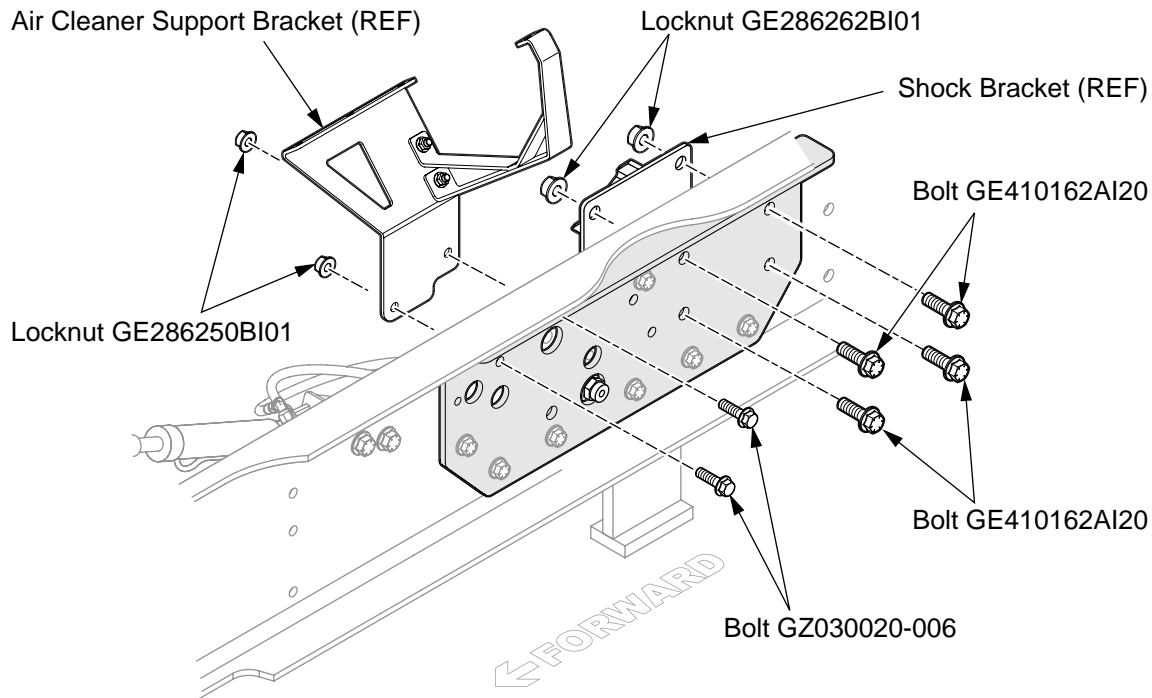

Figure 9
21. Using a 1/2" drive 3/4" socket and a 3/4" combination wrench, install the two locknuts GE286250BI01 and the two bolts GZ030020-006 supplied with the frame reinforcement hardware kit to secure the air cleaner support bracket to the frame rail. Tighten the bolts to 120 ft-lbs (160 N-m) of torque (see Figure 9).
29. Using a 1/2" drive 15/16" socket and a 1/2" drive torque wrench, install the four bolts GE410162AI20 and the four locknuts GE286262BI01 supplied with the frame reinforcement hardware kit to secure the shock bracket to the frame rail. Tighten the bolts to 215 ft-lbs (290 N·m) of torque (see Figure 9).